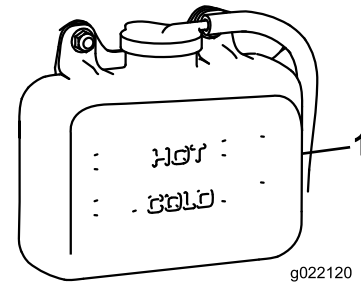

Figure 81
1. Check the level of the coolant in the expansion tank (Figure 81).